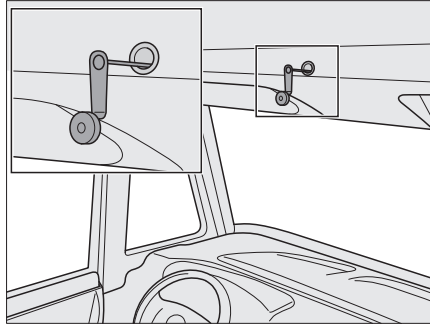

Fig. 164 Emergency operation for the electrical pull-down bed
- ▶ In the case of a power failure the electrical pull-down bed can also be moved with an emergency crank (Fig. 164). This is located in the kitchenette.